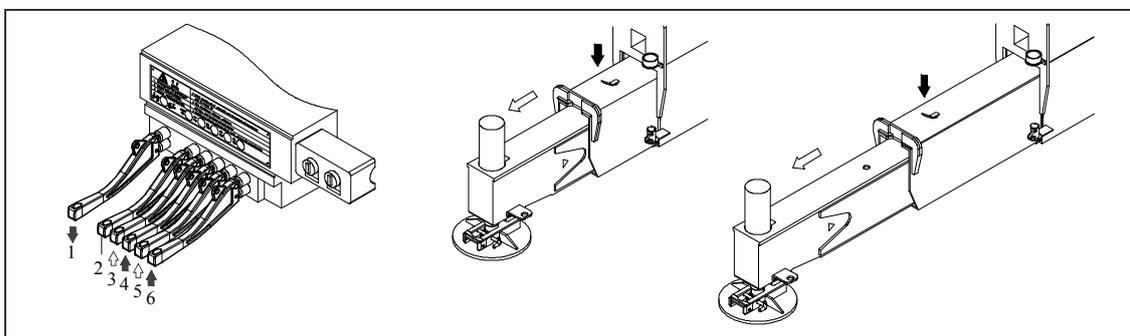

Fig. 04 – 17
c) As illustrated in Fig. 04 – 18: